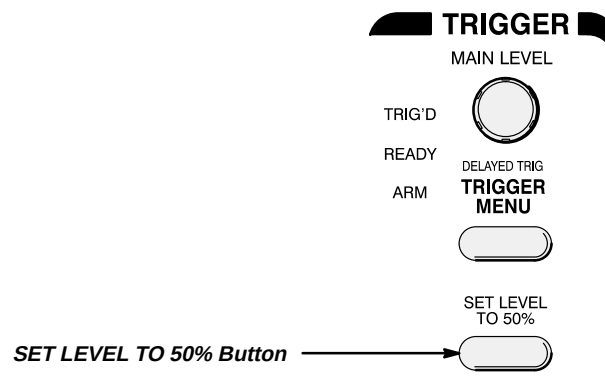

Figure 1-4: Trigger Controls
4. Press **SET LEVEL TO 50%** (see Figure 1-4) to be sure the oscilloscope triggers on the input signal.